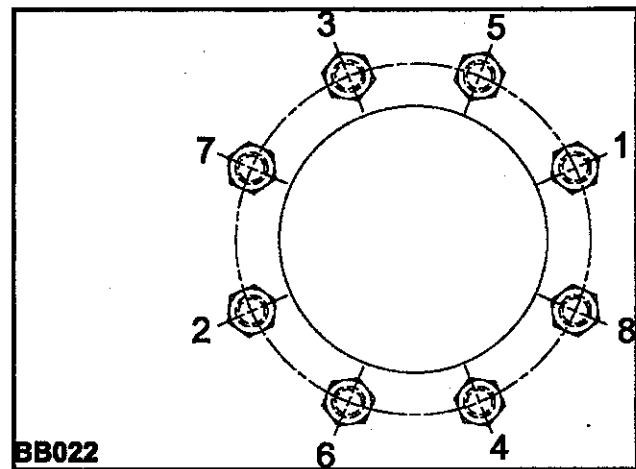
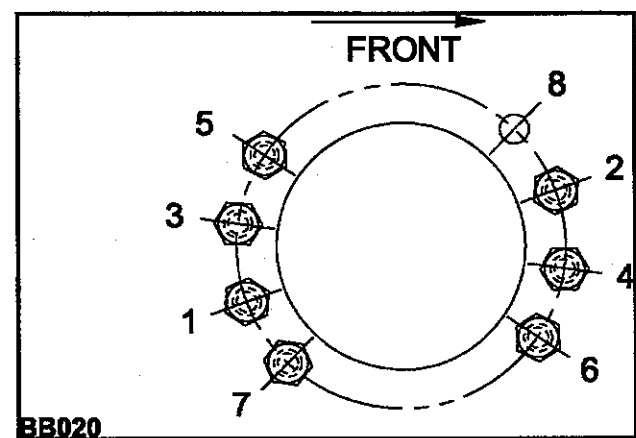
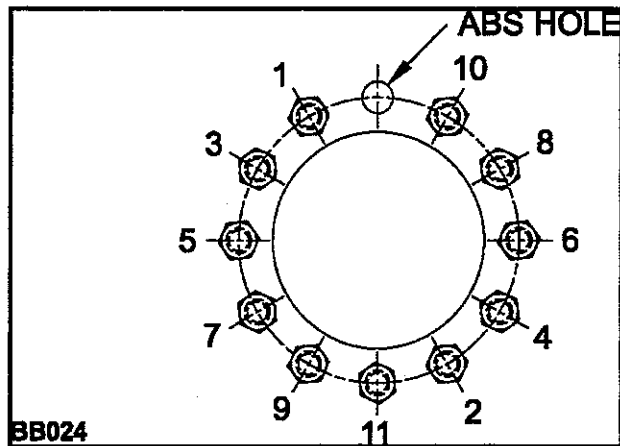

Figure 39—Torque Sequence for Rear
Figure 40—Rear
Figure 41—Rear
3. Tighten nuts to 150—190 foot-pounds (203—258 N•m) in sequence shown in Figure 39, Figure 40, and Figure 41—Rear.